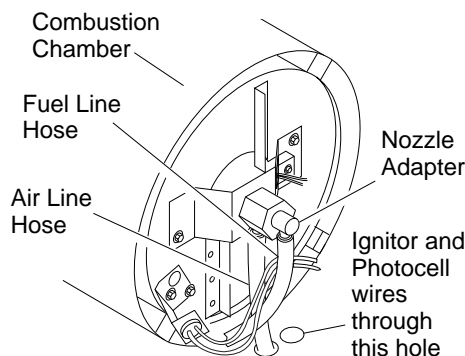
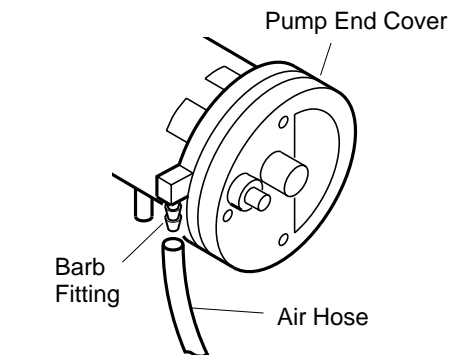
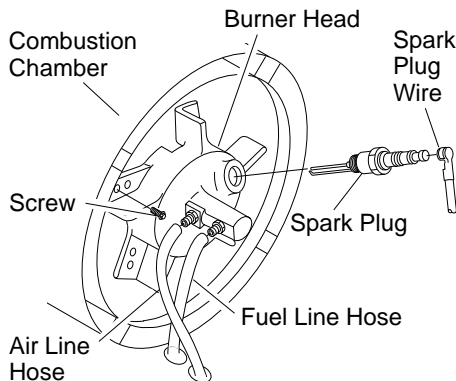

Figure 14 - Removing Air and Fuel Line Hoses
Figure 17 - Air Hose to Barb Fitting
Figure 18 - Removing Burner Head
4. Inspect fuel and air line hoses for cracks and/or holes. If fuel line hose is damaged, disconnect from nozzle adapter or burner head (see Figure 14 or Figure 18, page 11) and from fuel filter (see *Fuel Filter*, page 9). If air line hose is damaged, disconnect from nozzle adapter or burner head (see Figure 14 or Figure 18, page 11) and from barb fitting on pump end cover (see Figure 17).
5. Install new air and/or fuel line. Attach one end of air line hose to barb fitting on pump end cover (see Figure 17) and the other end to nozzle adapter or burner head (see Figure 14 or Figure 18, page 11). Attach one end of fuel line hose to fuel filter (see *Fuel Filter*, page 9) and the other end to nozzle adapter (see Figure 14 or Figure 18, page 11). Route air and fuel line approximately as shown in Figure 14 (RJ45) or 18 (RJ70), page 11.